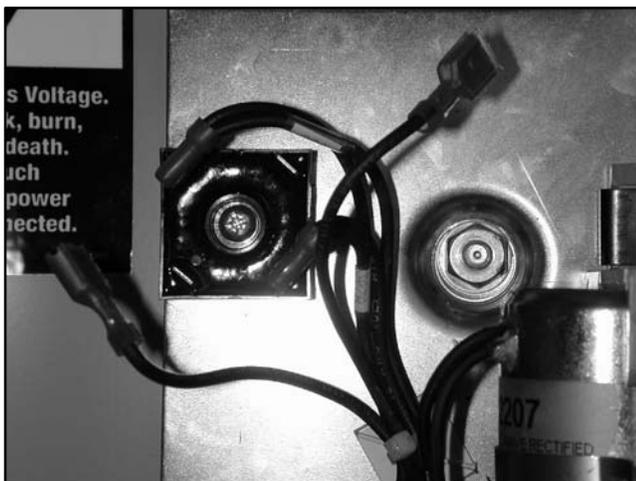

Figure 5-14 Rectifier Connections (DC solenoid leads shown disconnected)
5. Remove DC fast-on connections from the rectifier terminals. See Figure 5-14.